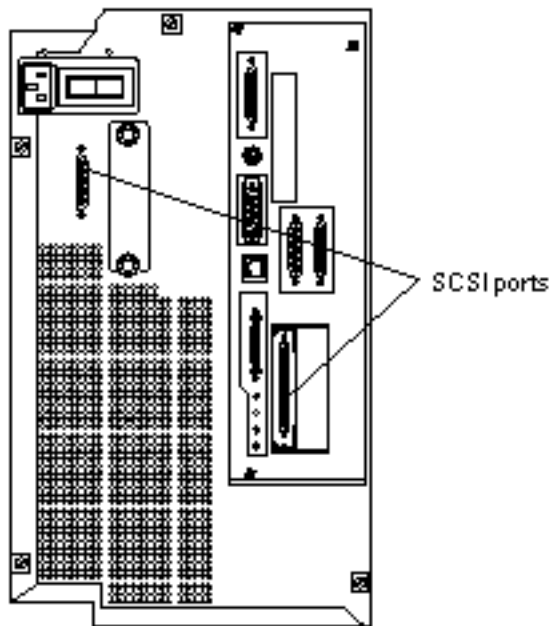

Figure 1-3 Connecting the SCSI Cable
5. Verify that an external fast wide SCSI cable is connected between the appropriate SCSI ports as shown in Figure 1-3.